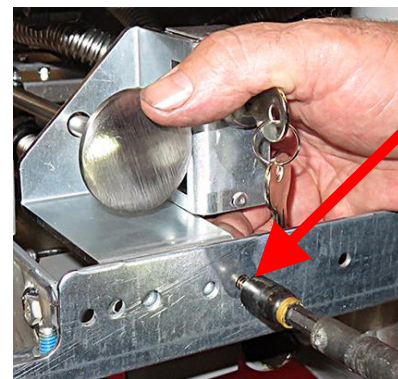

Figure 57
- 69. Attach the dispose valve handle bracket to the frame (see Figure 57).